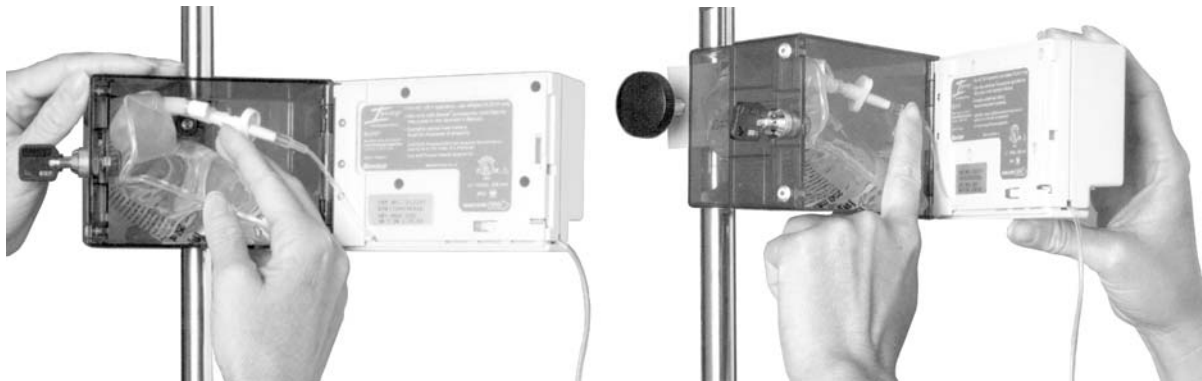

Figure 3-9 *Placing the Bag in the Cover*
7. **For Spiked Bag & Set Loading:** Take the spiked bag and fold it about 1/3 of the way from the spike port. Place the bag in the cover with the set pulling across the hinge of the pump and the spike pointing towards the lock or upper corner above the lock (see Figure 3-9).
For Luer Lock Bag and Set Loading: Place the Luer Lock bag in the cover with the Luer Lock connector closest to the pump (see Figure 3-9).